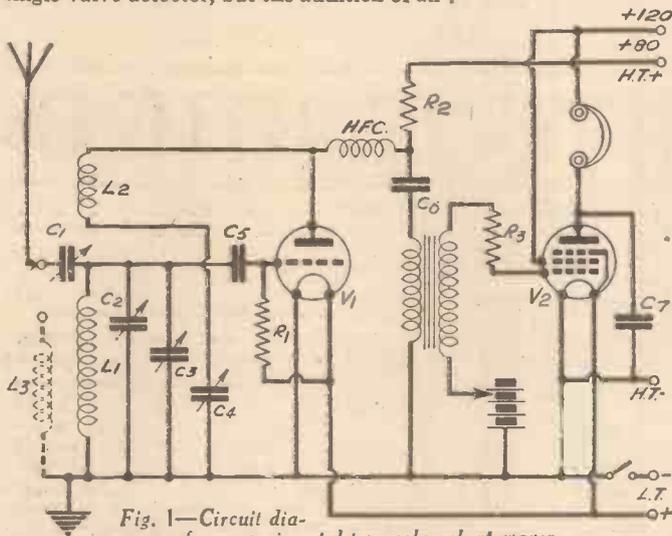

Fig. 1—Circuit diagram of an experimental two-valve short-waver.
L.F. stage greatly increases signal strength. A useful circuit is given in Fig. 1.
and-socket coil mounting, and those consisting of two or three windings on a single former intended to plug into a four- or six-pin base. These are smaller in diameter than the single coils and, therefore, their magnetic field is smaller, and so interaction with other components is reduced. As they are wound to work together smooth reaction is automatically ensured. The four-pin types are intended to plug-in to valve-holders and are suitable for the circuit shown in Fig. 1, where the aerial is coupled through a condenser.